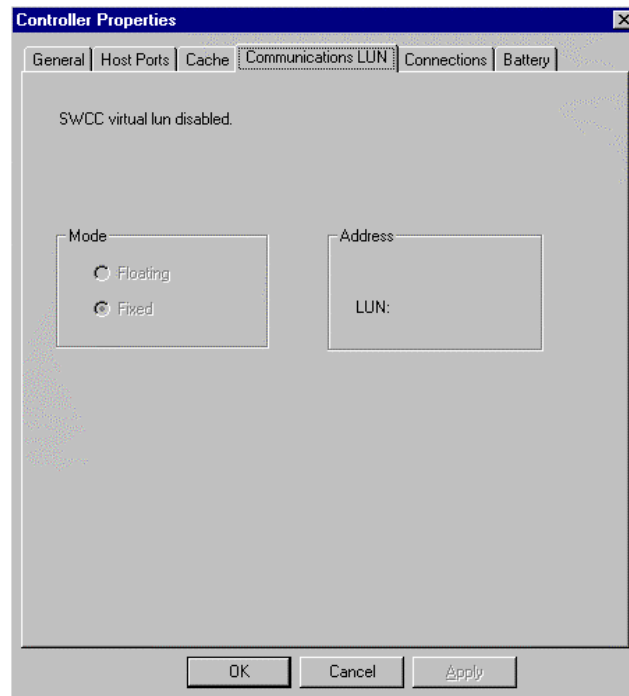

Figure 2-10. Communications LUN controller properties tab
4. Click the *Cache* tab to check cache size (Figure 2-10).